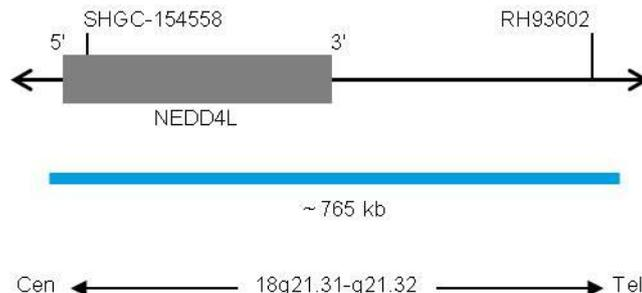

Fig. 1: SPEC 18 Probe map (not to scale)
- ZyBlue (excitation at 418 nm and emission at 467 nm) labeled polynucleotides (37 ng/μl), which target sequences mapping in 18q21.31-q21.32* (chr18:55,690,725-56,455,119) (see Fig. 1).